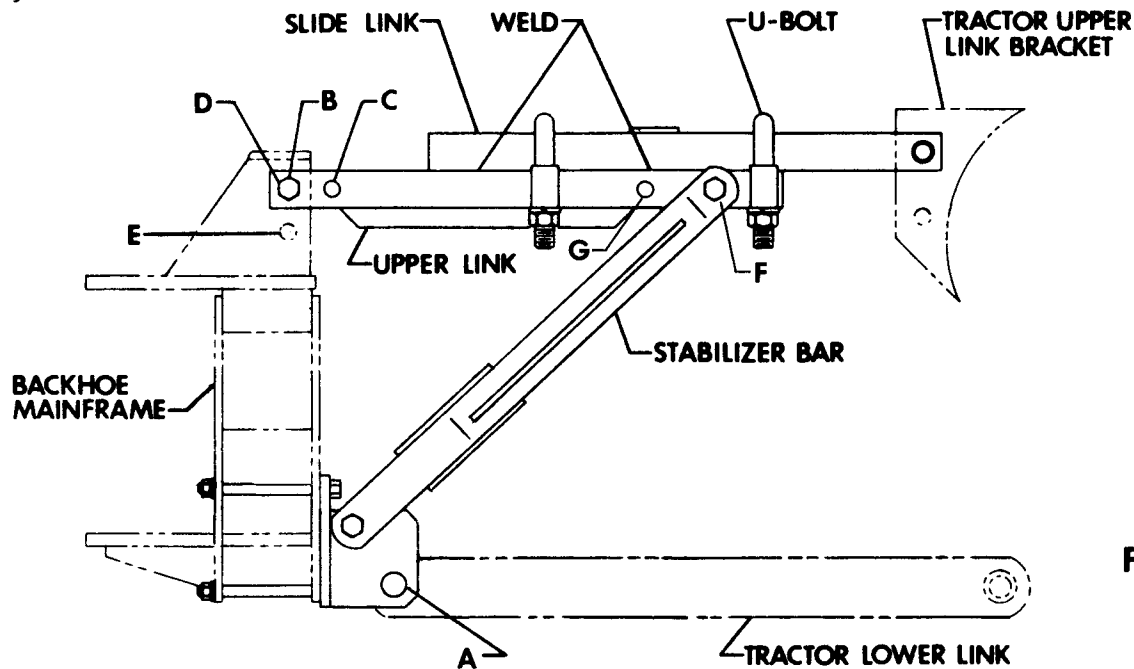

FIG 3
4. Back tractor close to the backhoe. Connect tractor lower link arms to lower link mounts (19, 20) at position A, Fig 3, using two clevis pins, (15), two bushings (16), and two lynch pins (13) as shown in Fig 1 and 2.
6. There are several variations in the method the W451 linkage may be installed. This allows the kit to be used with a variety of approved tractor models. These variations, see Fig 3, are listed as follows:
Tack weld slide link to upper link 2 places on each side, as shown in Fig 3, 4, and 5.